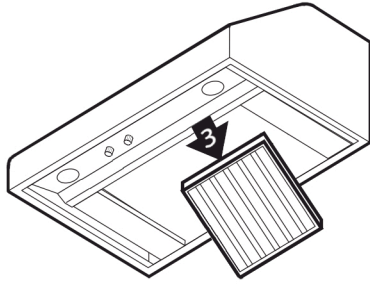

FIGURE 14: REMOVE THE STAINLESS STEEL BAFFLES – PART C
- c. Slide the baffle filter out of front channel of hood (FIGURE 14).